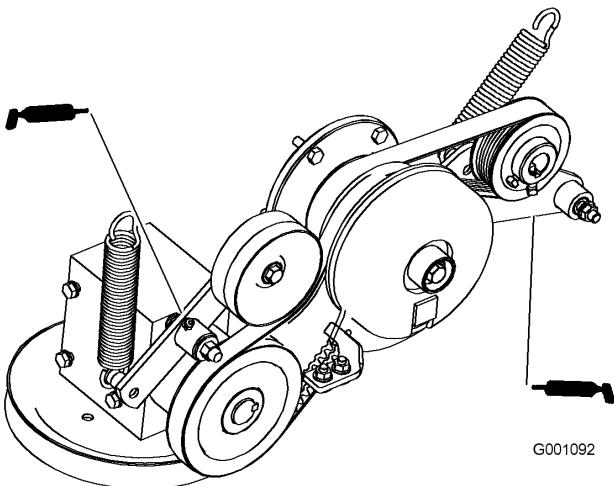

Figure 26
6. Grease the PTO drive belt idler arm (Figure 26).
7. Grease the pump belt idler arm (Figure 26).